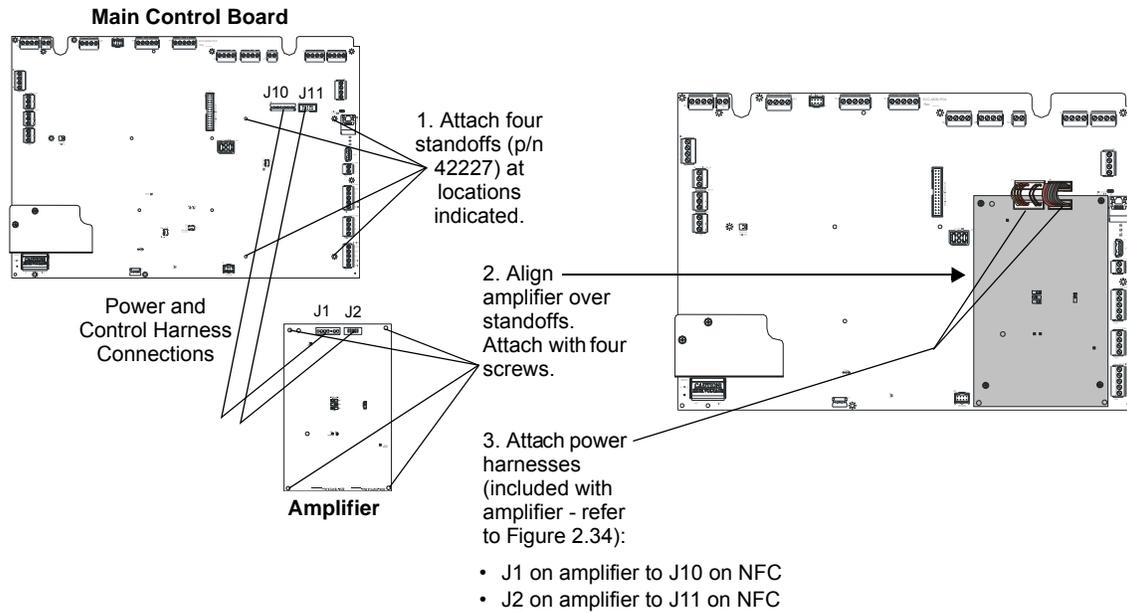

Figure 2.33 NFC-BDA-25/70V Installation
Figure 2.33 shows the installation of a NFC-BDA-25/70V onto an NFC-50/100 panel. The optional amplifier may be programmed and wired for backup or for providing a second audio channel.
1. Remove mounting screws shown, from the main control board, and save (refer to Figure 2.33).